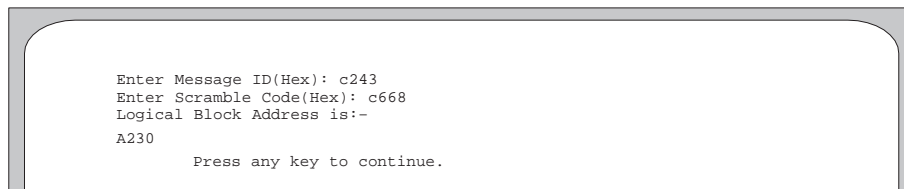

Figure A-34. Example of Prompts and Responses for the Message Id to Physical Address Utility.
1. From the Message Utilities menu, access the Message ID to Physical Address utility. Figure A-34 is an example of a completed screen for the Message ID to Physical Address utility.